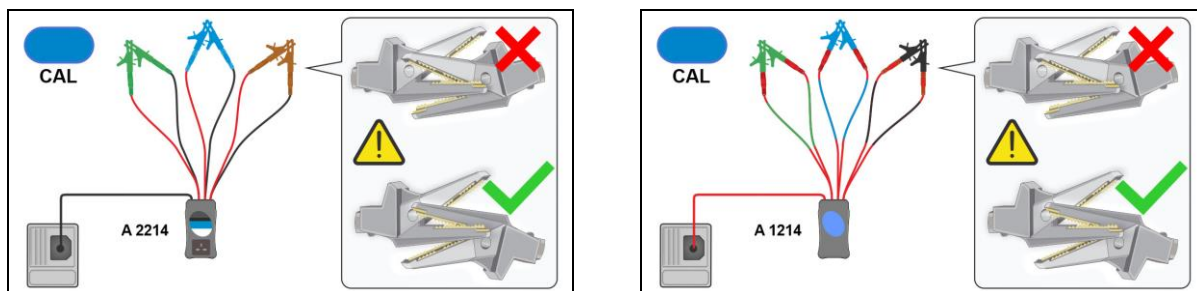

Figure 5.25: Connections for compensation of internal resistance of A 2214 (left), and A 1214 (right) – Step 1 – (RING r1, r2, rN)
- ❑ **Connect** A 2214 or A 1214 adapter to the instrument and short test leads together, as indicated on *Figure 5.25*. Pay special attention on correct orientation of crocodile clip connections! Wrong orientation can lead to false resistance compensation.